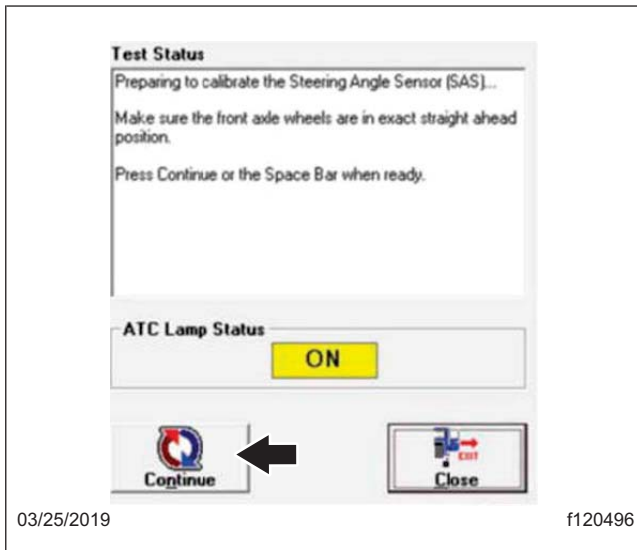
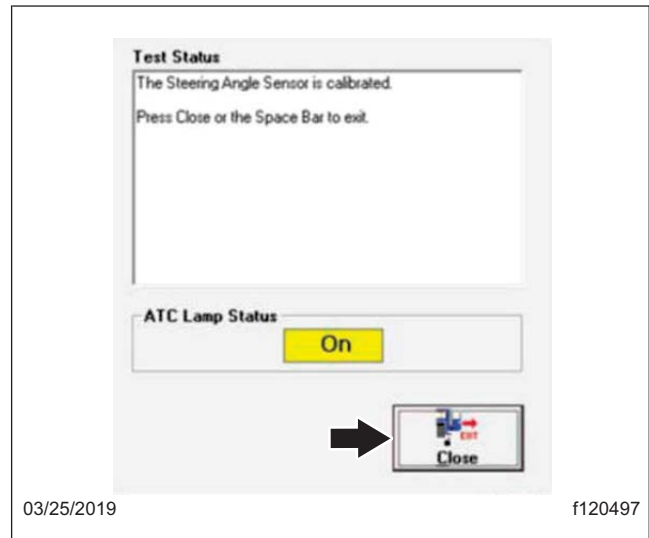

Fig. 6, Test Status, SAS Screen 1
Fig. 7, Test Status, SAS Screen 2
- Follow the instructions in the message box. See Fig. 6. The software indicates when the SAS is calibrated. Once the SAS is calibrated, press the 'Close' button or the space bar to continue. See Fig. 7.